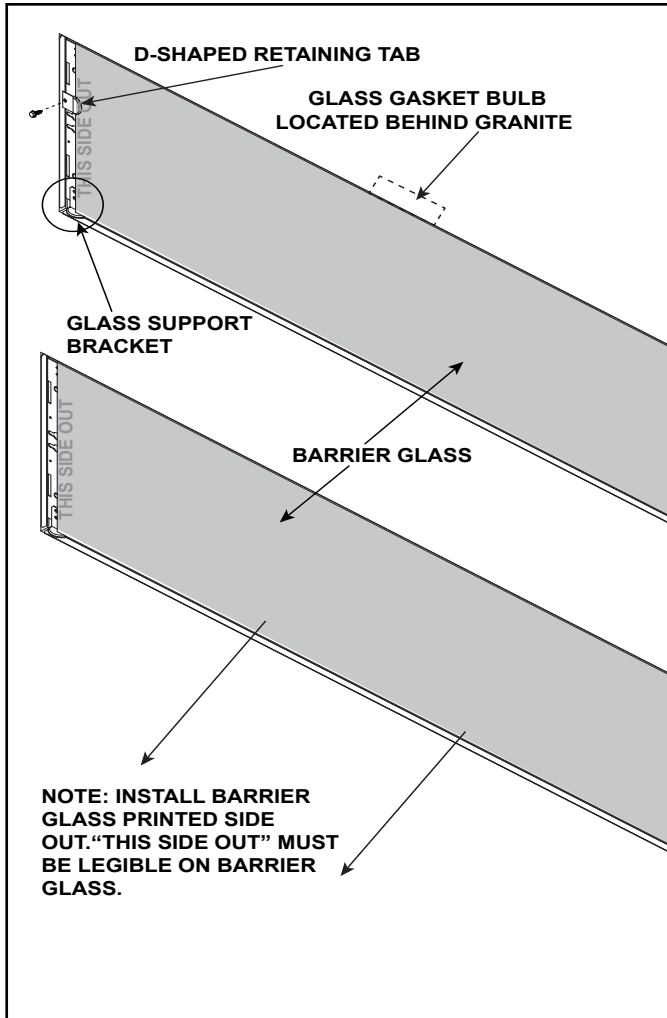

Figure 4.3 Remove Barrier Glass - Black Granite Finish
3. The glass rests against the barrier glass support bracket. See Figure 4.3.